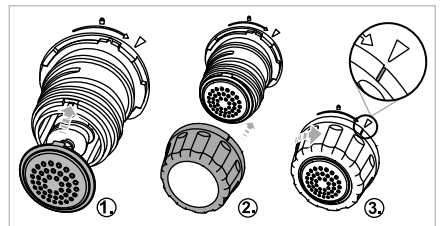

Fig. 5
- 8) Select the appropriate shaping disc **8** (see section **9. Shaping discs**) and slide it onto the bracket **12** so that the two catches on the shaping disc **8** slide into the recesses on the bracket **12** (**fig. 5**).
- 9) Push the shaping disc fixture ⑭ onto the bracket ⑫ and tighten it by turning it clockwise towards the  symbol (fig. 5). Fix the shaping disc ⑧ in place with your free hand if necessary.
- 10) Do not fit the lid ② until after you have placed the required amount of flour in the dough container ⑮ (see section 11. Making pasta).
- 11) Insert the plug into an easily accessible mains socket. You will hear a beep and the display ① lights up briefly. The appliance is now in standby mode.